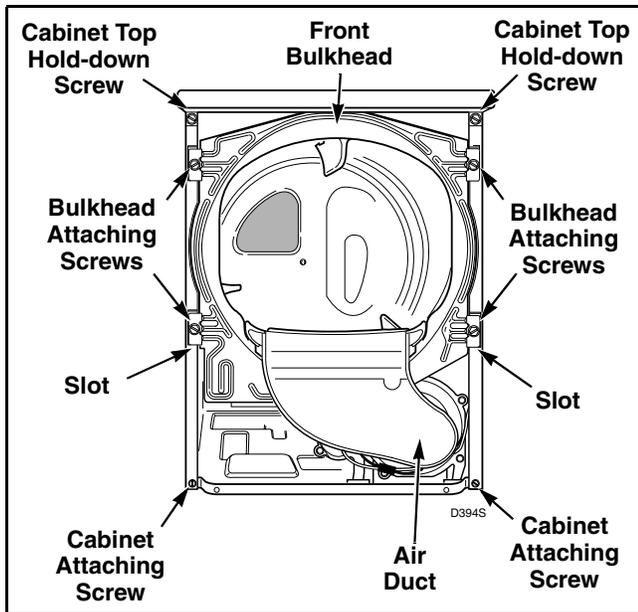

Figure 30
- h. Remove four screws holding bulkhead to front flange of cabinet and lift complete bulkhead assembly out of slots in cabinet. Refer to *Figure 30*.
- f. Remove four screws holding bulkhead to front flange of cabinet. Then, lift complete bulkhead assembly out of slots in cabinet. Refer to *Figure 30*.
- f. Remove four screws holding bulkhead to front flange of cabinet. Then lift complete bulkhead assembly out of slots in cabinet. Refer to *Figure 30*.
- g. Remove two cabinet top hold-down screws. Refer to *Figure 30*.
- e. Remove two cabinet top hold-down screws. Refer to *Figure 30*.
- h. Remove four screws holding bulkhead to front flange of cabinet. Then, lift complete bulkhead assembly out of slots in cabinet. Refer to *Figure 30*.